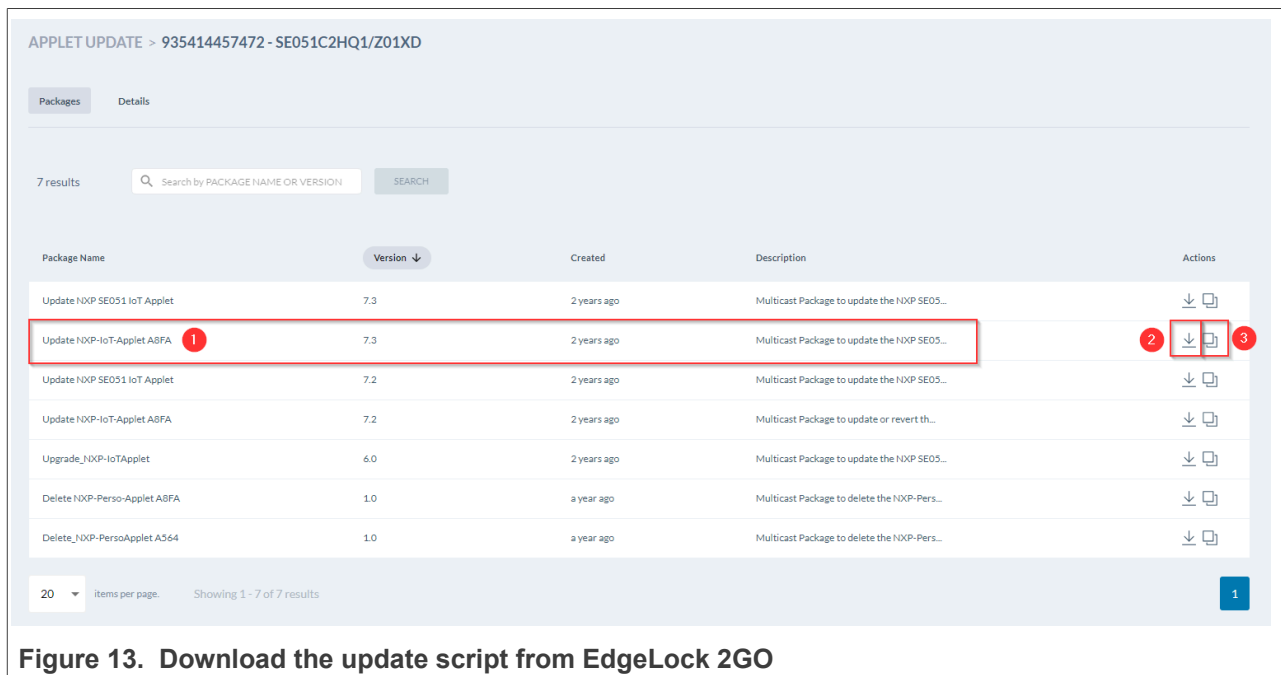

Figure 13. Download the update script from EdgeLock 2GO
- In the new page that appears you can see the list of available packages as shown in Figure 13:
(1) In the list you can find information on the package name and version. Select the IoT applet update package corresponding to the version that you want to upgrade to.
(2) Click on the *Download* icon to download the script in JSON format. Save the script in your preferred location.
(3) You can copy the SHA-512 checksum of the file in your clipboard. You can use this value to check the integrity of the script when you transfer it to the IoT device.